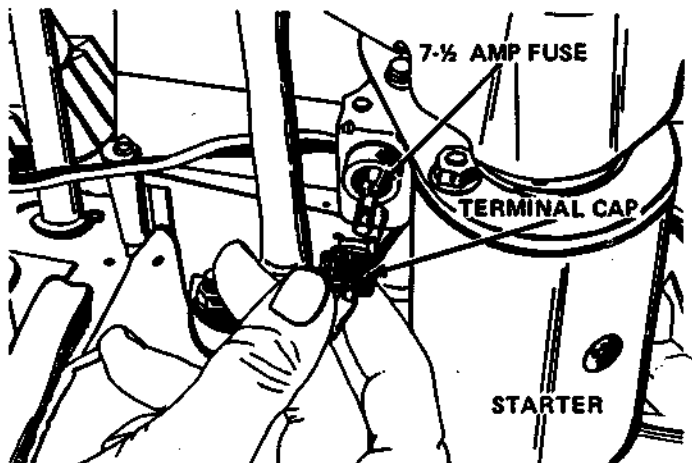

Figure 24
**IMPORTANT: REVERSED BATTERY CABLES OR REVERSED CABLES FROM A BATTERY CHARGER OR BOOSTER BATTERY CAN BLOW THE 7 1/2 AMP FUSE SHOWN IN FIGURE 24. ALWAYS DISCONNECT THE TERMINAL AT THE FUSE WHEN CHARGING THE BATTERY OR WHEN ELECTRIC WELDING IS DONE ON THE TRACTOR.**